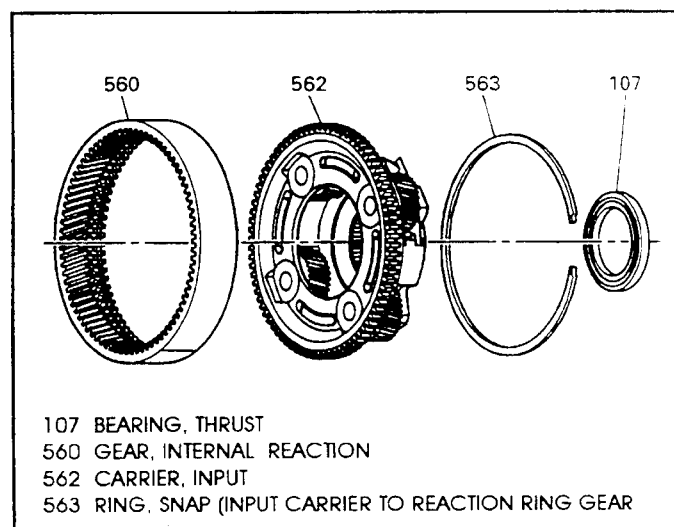

Figure 122
1. Inspect the reaction internal ring gear and input carrier for wear or damage (See Figure 122).
4. Assemble the reaction ring gear and the input carrier and install snap ring (See Figure 122).
5. Install thrust bearing (107) onto input carrier and retain with "Trans-Jel" (See Figure 122).